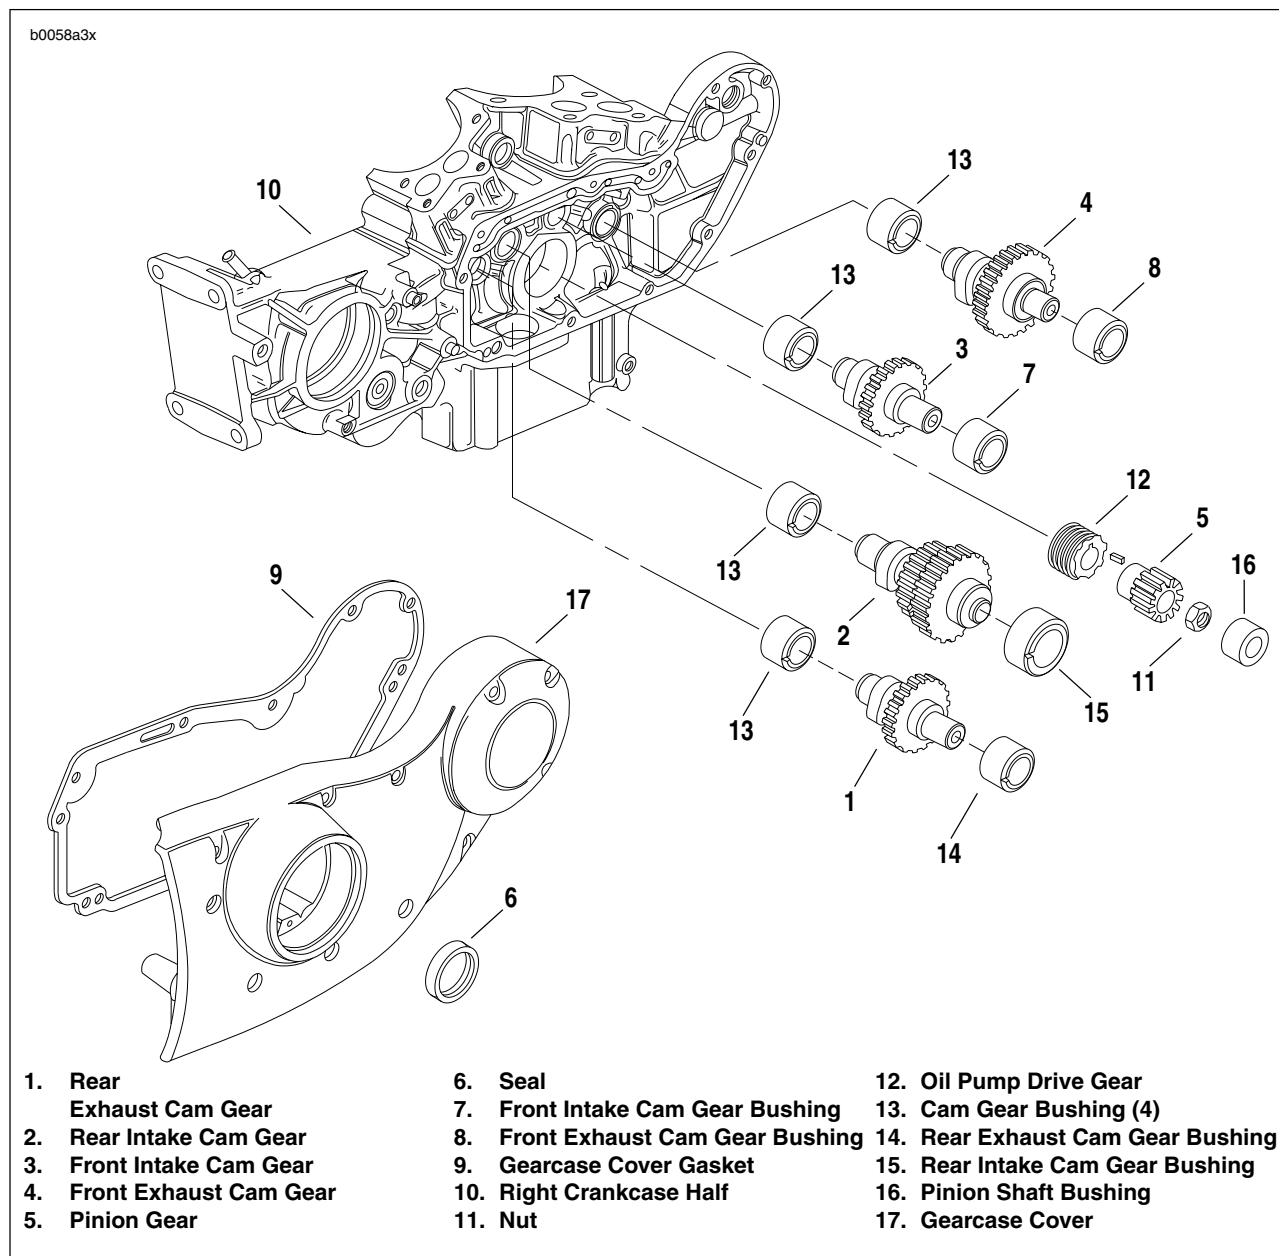

Figure 3-62. Gearcase and Valve Train Components
1. See Figure 3-62. Thoroughly clean area around gearcase cover (17) and lifters. Blow loose dirt from crankcase with compressed air.
7. Place a pan under gearcase to collect oil. Remove cover screws. Carefully remove gearcase cover. Discard old gasket (9).
1. See Figure 3-62. Bushings (7, 8, 13, 14, 15 and 16) are press fit in gearcase cover (17) and crankcase. Inspect each bushing against its corresponding cam gear shaft or pinion gear shaft. See Table 3-10.
1. See Figure 3-62. Using an arbor press, install each bushing (7, 8 and 14) in its gearcase cover (17) bore so that bushing shoulder contacts cover boss. Orient each
3. See Figure 3-62. Rear intake cam gear bushing (15) must be installed in its gearcase cover (17) bore using an arbor press. You will need to orient the bushing in a specific position of rotation within the cover bore, and will need to drill a lubrication hole in the bushing, according to the following procedures.
1. See Figure 3-62. Using an arbor press, install pinion shaft bushing (16) in its gearcase cover (17) so that bushing is flush with cover boss. There is no need to orient this particular bushing in any specific position of rotation within the gearcase cover bore.
1. See Figure 3-62. Bushings (7, 8 and 14) to be reamed must be installed in gearcase cover (17) as described in CAM BUSHING INSTALLATION \(TO GEARCASE COVER\). Attach gearcase cover to right crankcase half (10), which has been disassembled from left crankcase half, securing with a minimum of three mounting screws.
2. Insert a standard 11/16 in. diameter reamer through the previously reamed cam gear bushing (13) in right crankcase half, which is in line with one of the bushings to be reamed in gearcase cover.
7. See Figure 3-62. Rear intake cam gear bushing (15) must be installed in gearcase cover (17) as described in CAM BUSHING INSTALLATION \(TO GEARCASE COVER\).
8. Identify the previously reamed rear intake cam gear bushing (13) in right crankcase half (10), which has been disassembled from left crankcase half. Insert the shank end of REAR INTAKE CAMSHAFT BUSHING REAMER (Part No. HD-94803-67) through gearcase side of this bushing.
1. See Figure 3-62. Pinion shaft bushing (16) must be installed in gearcase cover (17) as described in **CAM BUSHING INSTALLATION (TO CRANKCASE)**. Attach gearcase cover to right crankcase half (10), which has been disassembled from left crankcase half, securing with a minimum of three mounting screws.